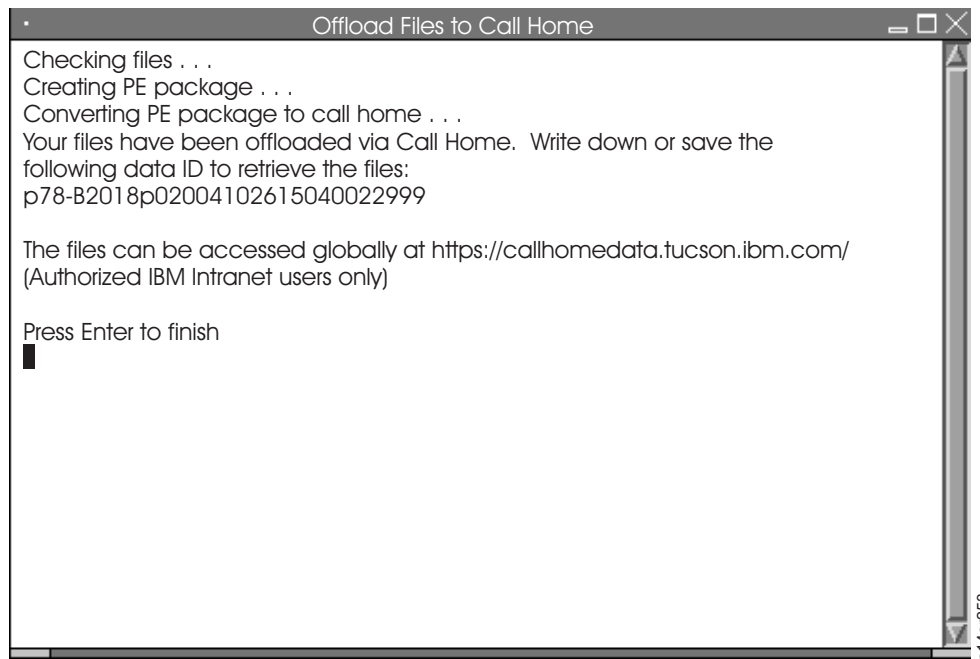

Figure 210. Offload Files to Call Home
1. From the main menu, select **System Console Actions > Offload User Files to Call Home**. If you are using a dial-in session, issue the command **offloadpkg**. File offload begins. The window depicted in Figure 210 on page 167 appears.
2. See Figure 210. A data ID is assigned to the user's files. This data ID must be entered to retrieve the files on the RMSS Call Home Database. Make note of this ID for future reference. If the ID is lost, the user's files can still be found by locating call homes from the system console's Primary System on the Call Home Database. The Primary System is set in Call Home Setup (see "Configuring Call Home Settings Electronic Customer Care" on page 87). To assist in recording the ID, note that the ID always takes the form described in the following example.